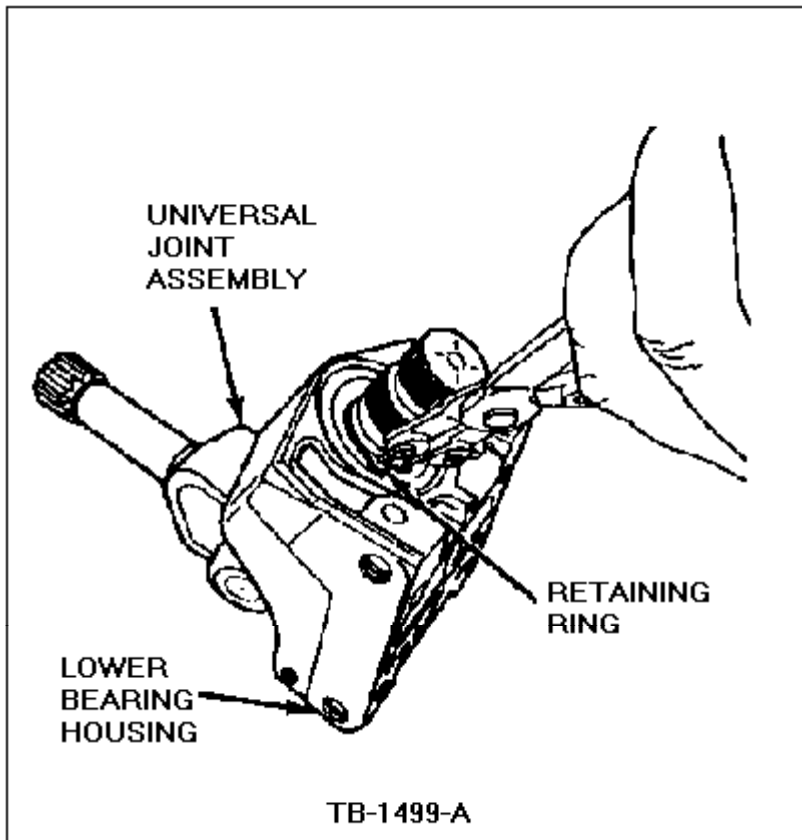

Figure 32 - Article 90-5-10
23. Assemble the lower serrated shaft of the universal joint into the lower bearing housing at the spring retaining rod end until it is seated against the bearing, Figure 32.
24. Install the retaining ring onto the universal joint shaft, Figure 32.